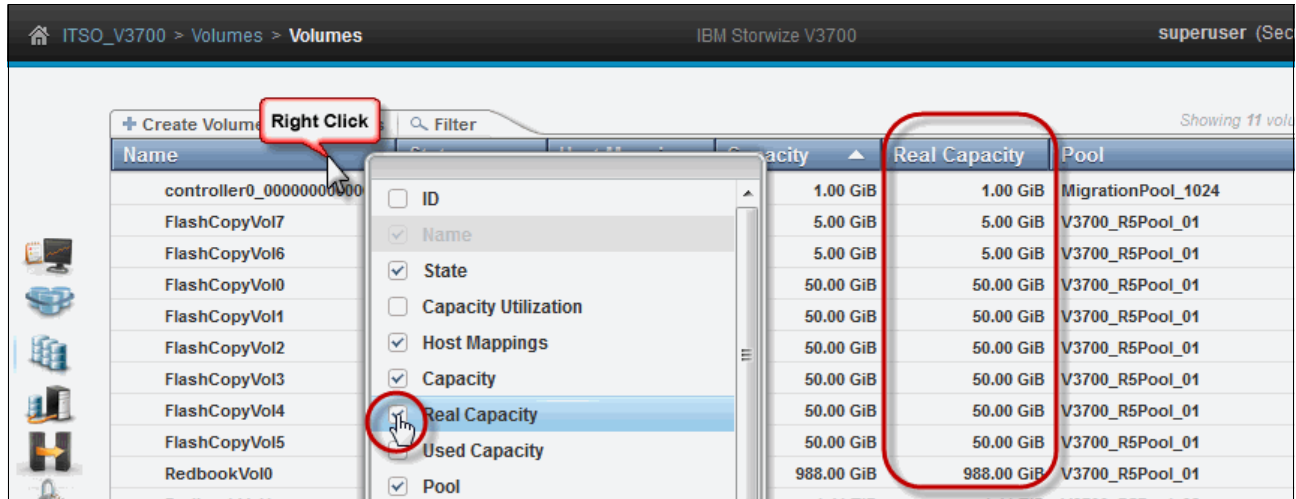

Figure 3-19 Adding column heading Real Capacity
1. Right-click the heading bar and select or clear the check box for the required column headings. Figure 3-19 shows the addition of the Real Capacity column.